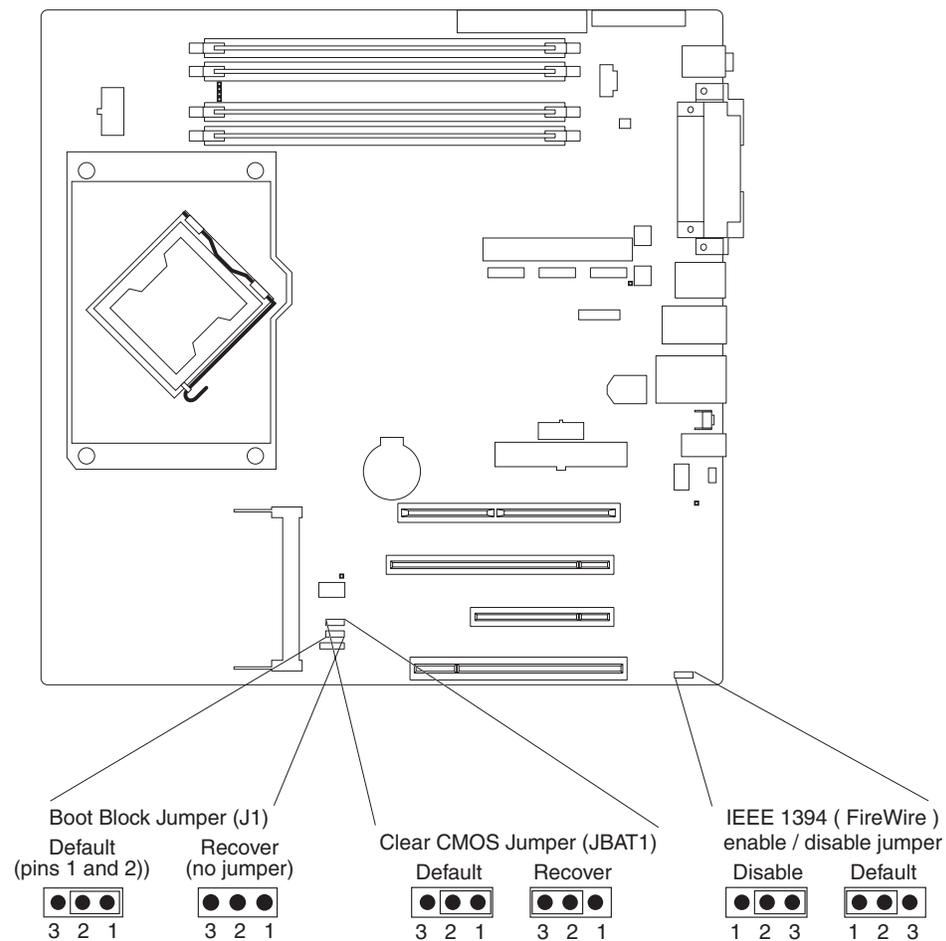

Figure 8. Recovery jumper locations
5. Locate the boot block recovery jumper (J1) on the system board (see Figure 8), removing any adapters that impede access to the jumper.
5. Locate the CMOS recovery jumper (JBAT1) on the system board (see Figure 8 on page 54), and remove any adapters that impede access to the jumper.